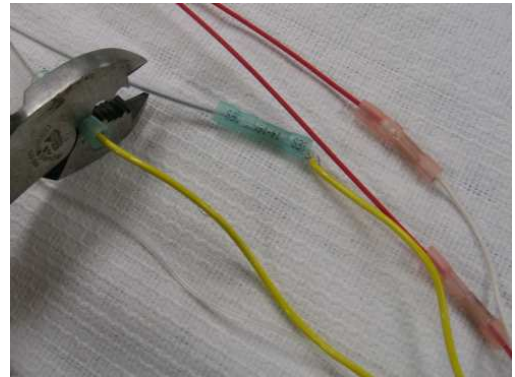

Fig. 2: Crimping a wire connector
1. Crimp together the yellow heater wires of the probe and trunkline and likewise the red conductivity wires. (Fig. 2) *The heater wires should have the shortest length between the trunkline and the probe to take the most stress of this connection.*